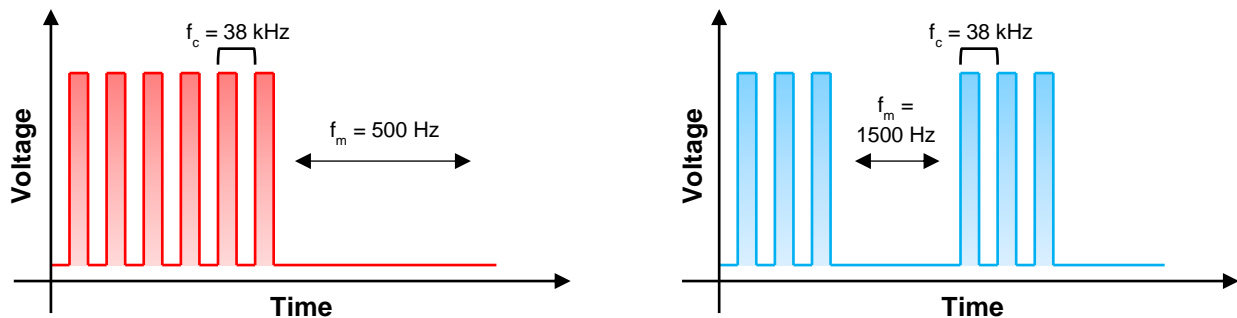

Figure 1: IR transmission scheme for 0 (left) and 1 (right)
In this lab, you will finish construction of the design project and assemble the infrared (IR) transmitter. The goal of the IR transmitter circuit is to produce a signal that can be decoded by the IR receiver circuit you assembled in Lab 4 and used to remotely enable and disable the audio amplifier on the receiver PCB. The transmitter accomplishes this by using **amplitude-shift keying** (ASK) to transmit digital data. ASK is a **modulation** scheme that uses changes in amplitude to represent binary digits. Modulation is the process of encoding information in a (typically high-frequency) **carrier** wave. The modulation scheme used in this system is shown in Figure 1.